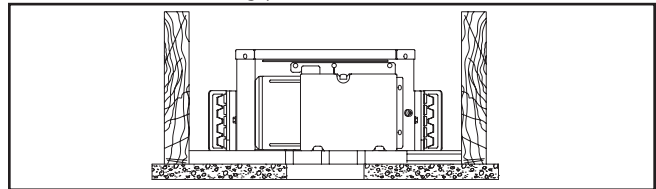

Figure 2.
- Non-IC Platform: The PN3LED12 housing platform is designed for installations where the housing platform does not come in contact with insulation (Figure 2.). Do not install insulation within 3 inches of Luminaire sides, wiring compartment or above.